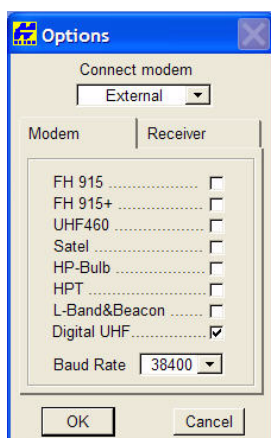

Figure 2-8. Tools-Options Screen
7. Confirm that all the applicable radio modem options have a check mark, as shown in Figure 2-8. Once configured, click **OK**.